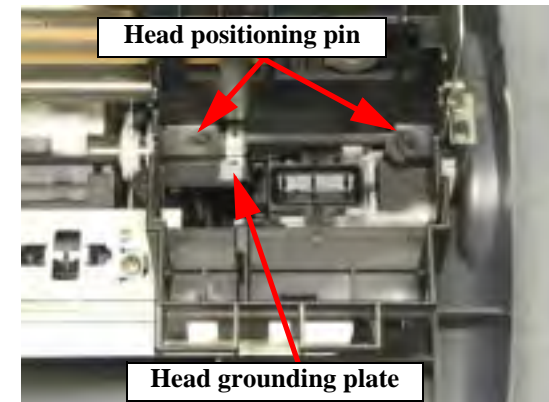

Figure 4-22. Head Mounting Position
3. Install the Print Head so that the two holes are put properly on the respective pins of the Carriage Unit. (See Figure 4-22, "Head Mounting Position", p. 47)